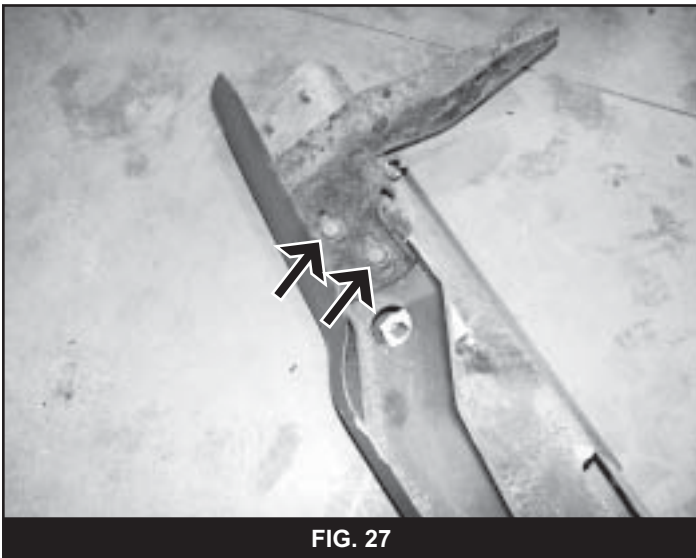

FIG. 27
47. Remove the four bolts (two on a side) and the rear bumper bracket assemblies from the rear bumper (Fig 27).